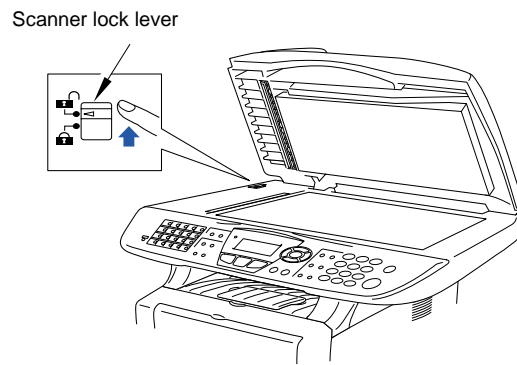

Fig. 2-11
- (1) Push the lever up to unlock the scanner. (Refer to Fig.2-11.)